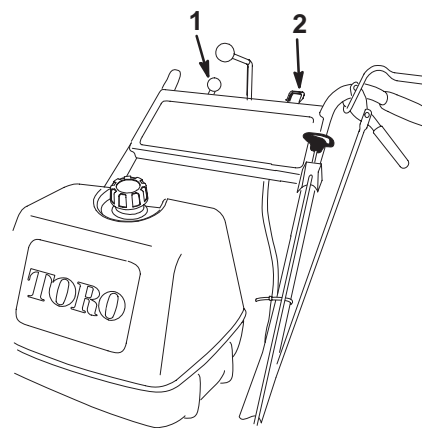

Figure 20
1. Move the throttle lever to “SLOW” (Fig. 20).
5. Turn the ignition key to “OFF” (Fig. 20).